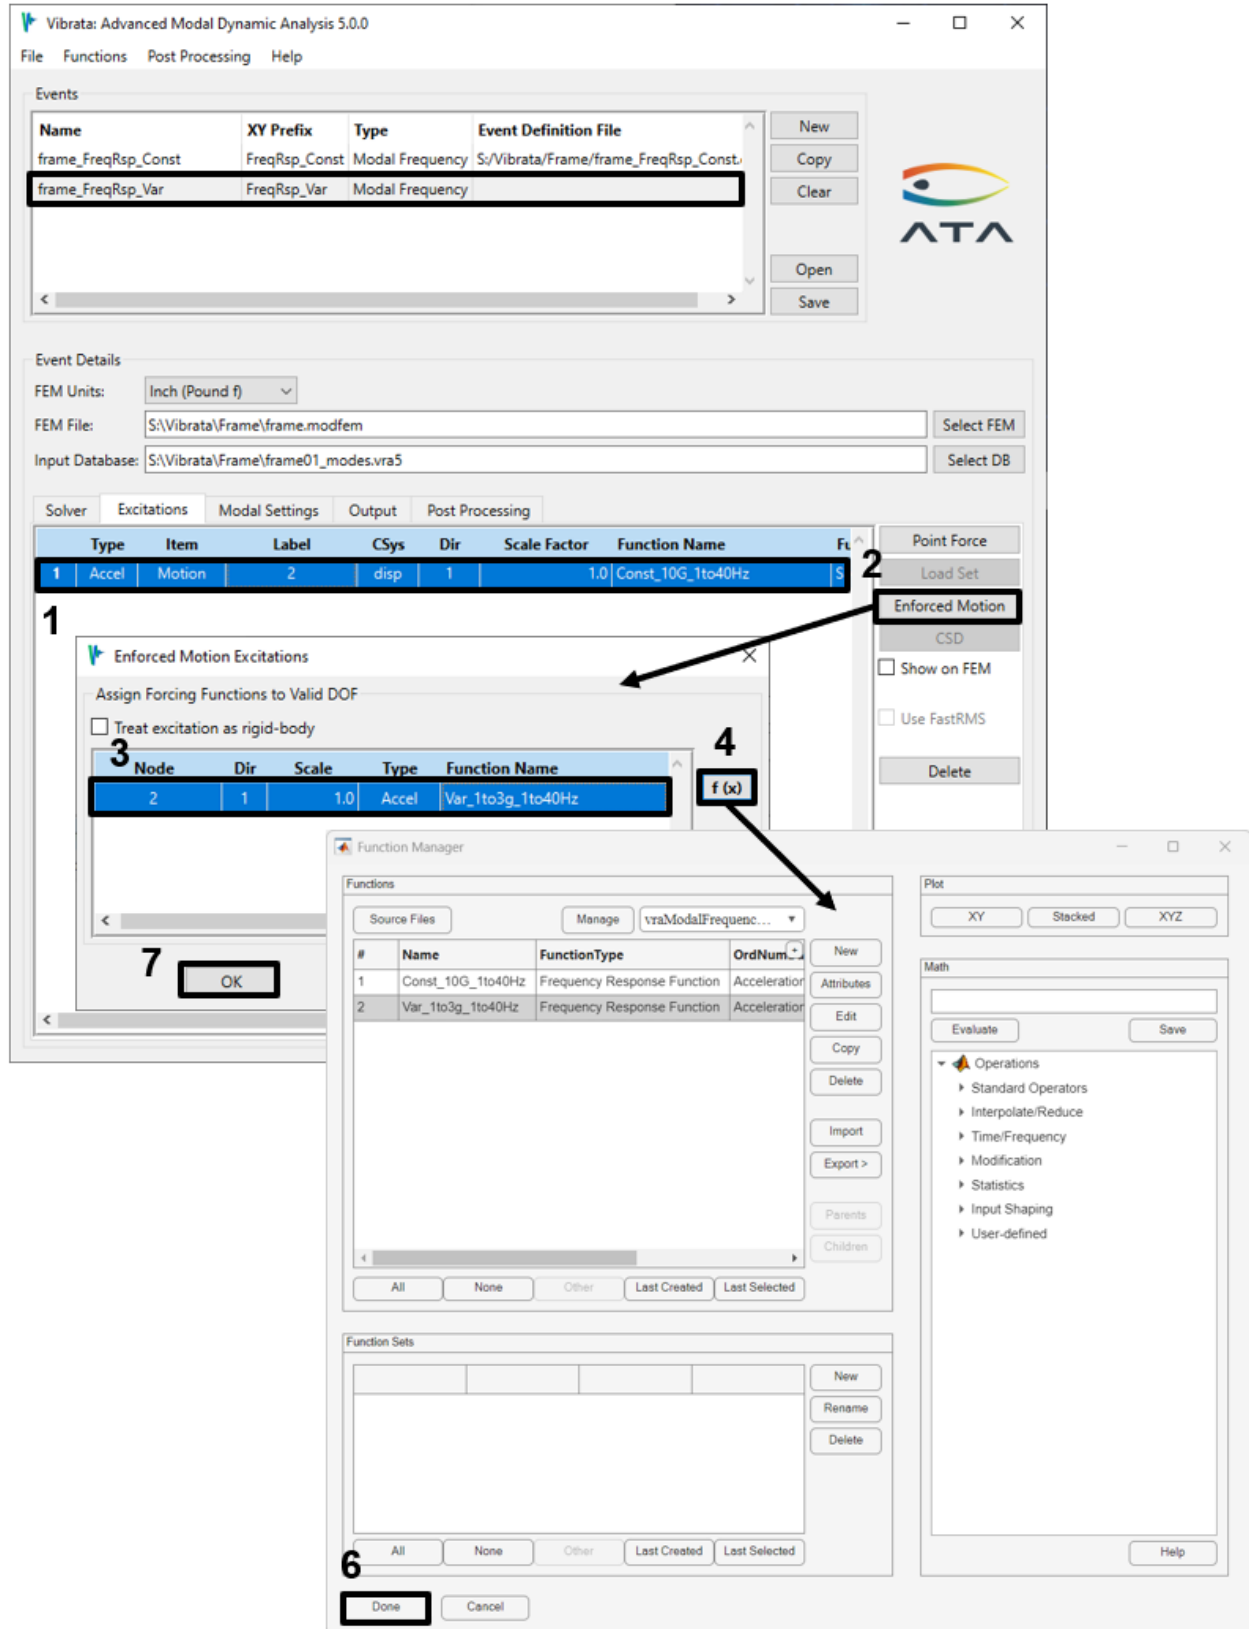

Figure 4-35. For the new (copied) event, delete the old excitation and create a new one.
- c. With the new event selected, go to the *Excitations* tab, select the existing excitation, and edit it by clicking on **Enforced Motion**. Select the variable-amplitude forcing function (Figure 4-35).